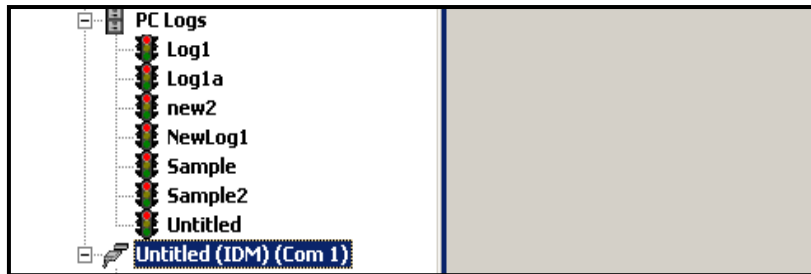
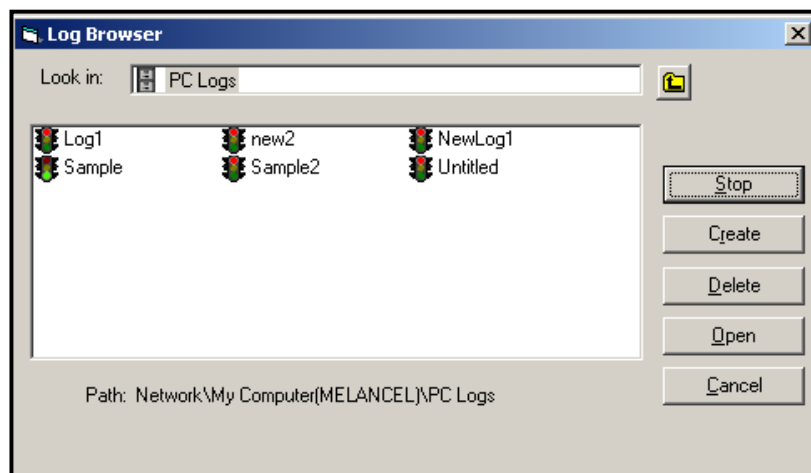

Figure 22: Expanded PC Logs Option
Figure 23: Selecting a Log File from the Log Browser
- From the *New Meter Browser* in PanaView, expand the network tree and click on the *PC Logs* option. If you have created one or more logs, the tree will appear similar to Figure 22. Double-click on the log name to open the log, or
- Pull down the *Output* menu (see Figure 13 on page 54), and click on the *Log Browser* option. Advance to the *PC Logs* dialog box as described in previous sections. A screen similar to that shown in Figure 23 appears.
Notice that each of the log files in Figure 22 and Figure 23 has a traffic light icon next to its name. These icons indicate the current status of the log as follows: